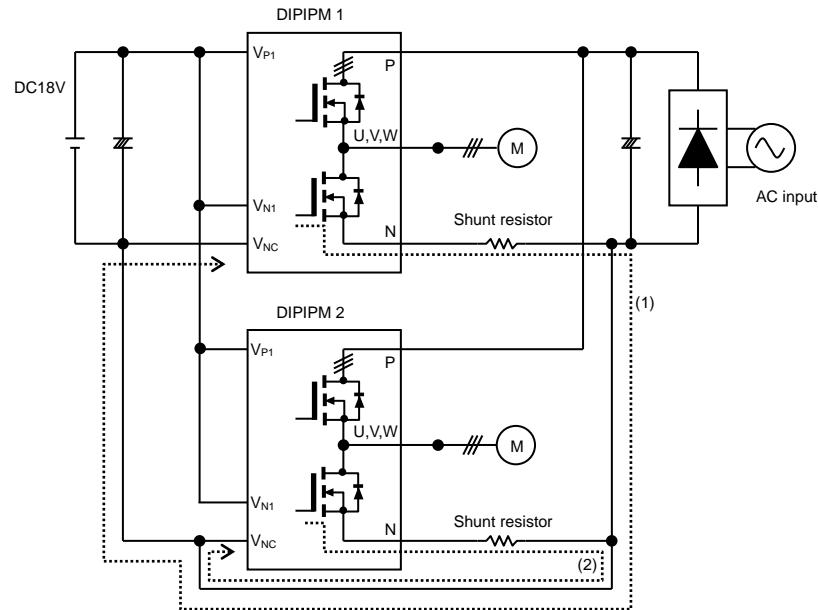

Fig.3-1-13 Parallel operation
Fig.3-1-13 shows the circuitry of parallel connection of two DIIPMs. Route (1) and (2) indicate the gate charging path of low-side MOSFET in DIIPM No.1 & 2 respectively. In the case of DIIPM 1, the parasitic inductance becomes large by long wiring and it might have a negative effect on DIIPM's switching operation. (Charging operation of bootstrap capacitor for high-side might be affected too.) Also, such a wiring makes DIIPM be affected by noise easily, then it might lead to malfunction. If more DIIPMs are connected in parallel, GND pattern becomes longer and the influence to other circuit (protection circuit etc.) by the fluctuation of GND potential is conceivable, therefore parallel connection is not recommended.